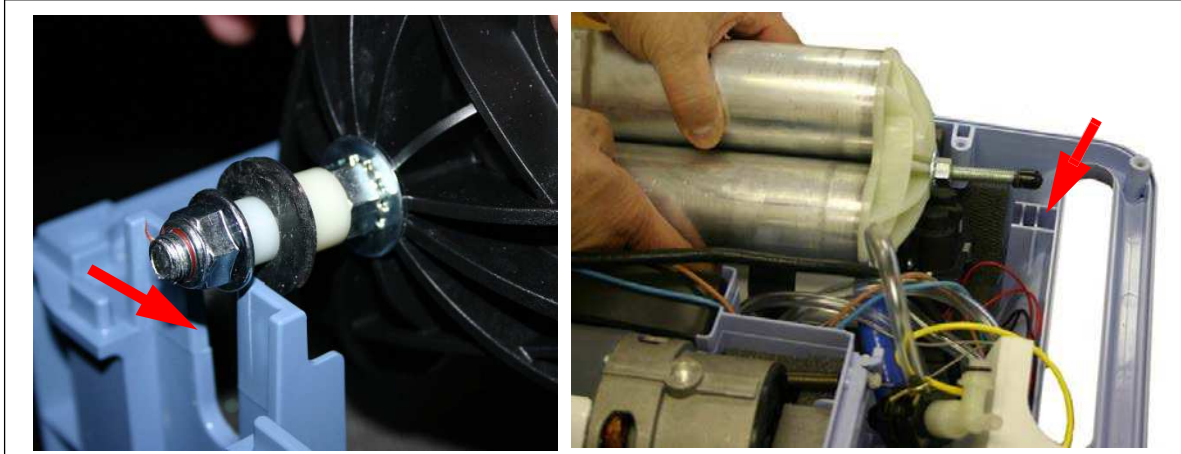

Figure 8-19: SLOT LOCATIONS
3. Secure the Valve Solenoid Assembly to the Sieve Canister Assembly by securing the five screws to 8 in-lbs. using the torque sequence listed in Refer to Figure 8-19.